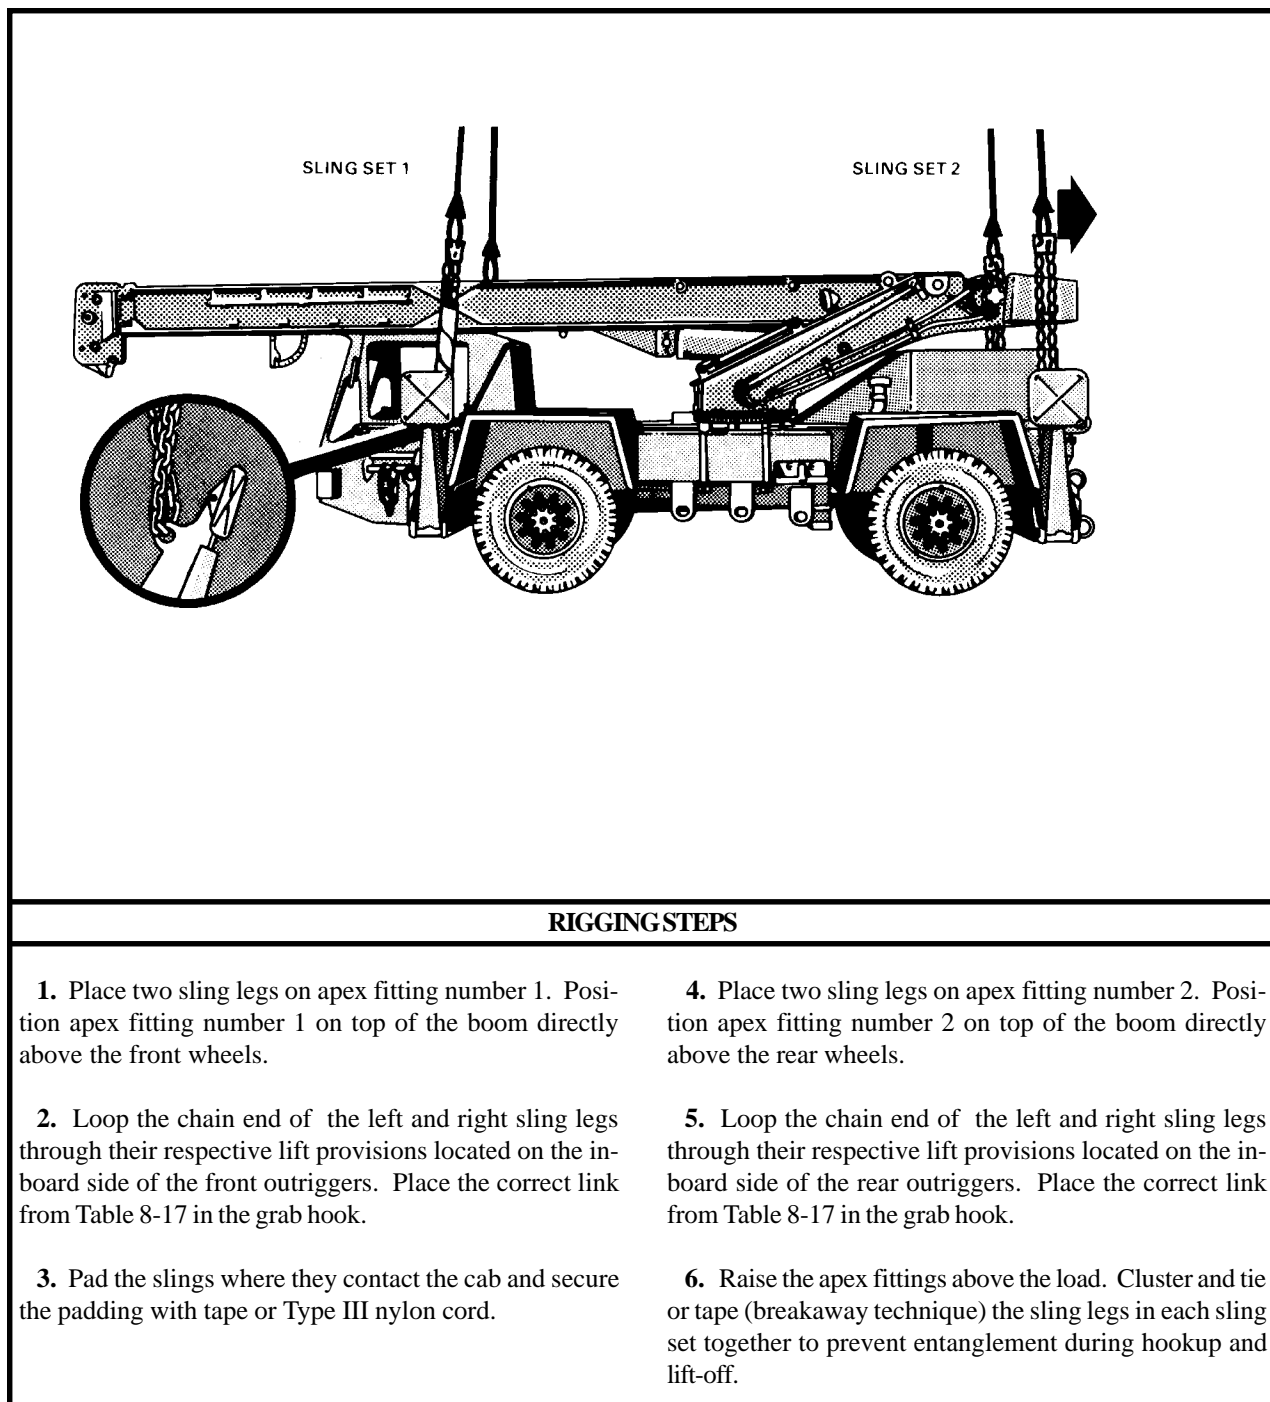

Figure 8-17. LRT-110, 7 1/2-Ton Crane
(2) **Rigging.** Rig the load according to the steps in Figure 8-17.